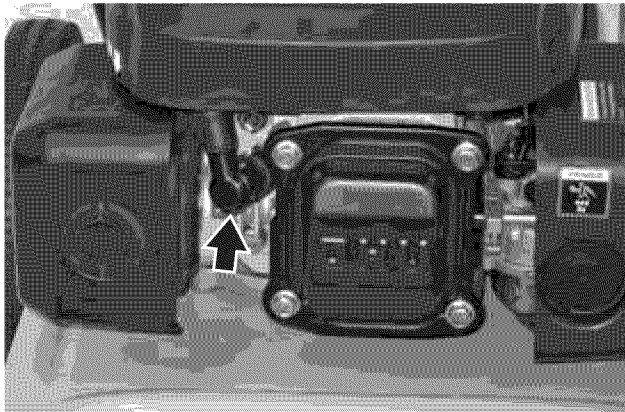

Figure 33 – Removal of Spark Plug Boot
3. Remove the spark plug boot by firmly pulling the plastic spark plug boot handle directly away from the engine (see *Figure 33*).